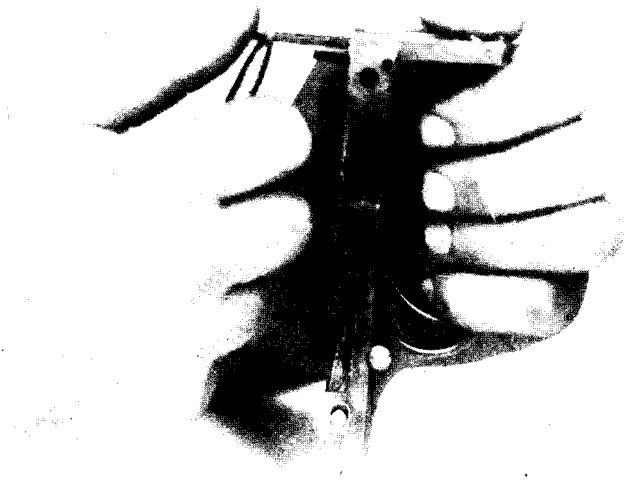
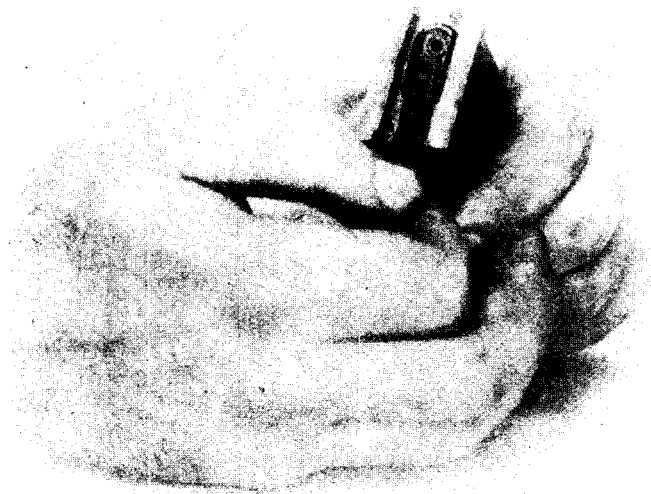

FIGURE 5.—Removing ejector.
FIGURE 6.—Removing magazine catch.
(2) *Trigger mechanism.*—(a) Depress the ejector lock with the point of a dummy cartridge. Hold the thumb in front of the magazine-catch spring to prevent it from flying out and then slide the ejector out of its seat. (See fig. 5.) Remove the magazine-catch spring. Remove the magazine-catch pin, lift out the magazine catch (see fig. 6) and magazine release (see fig. 7).